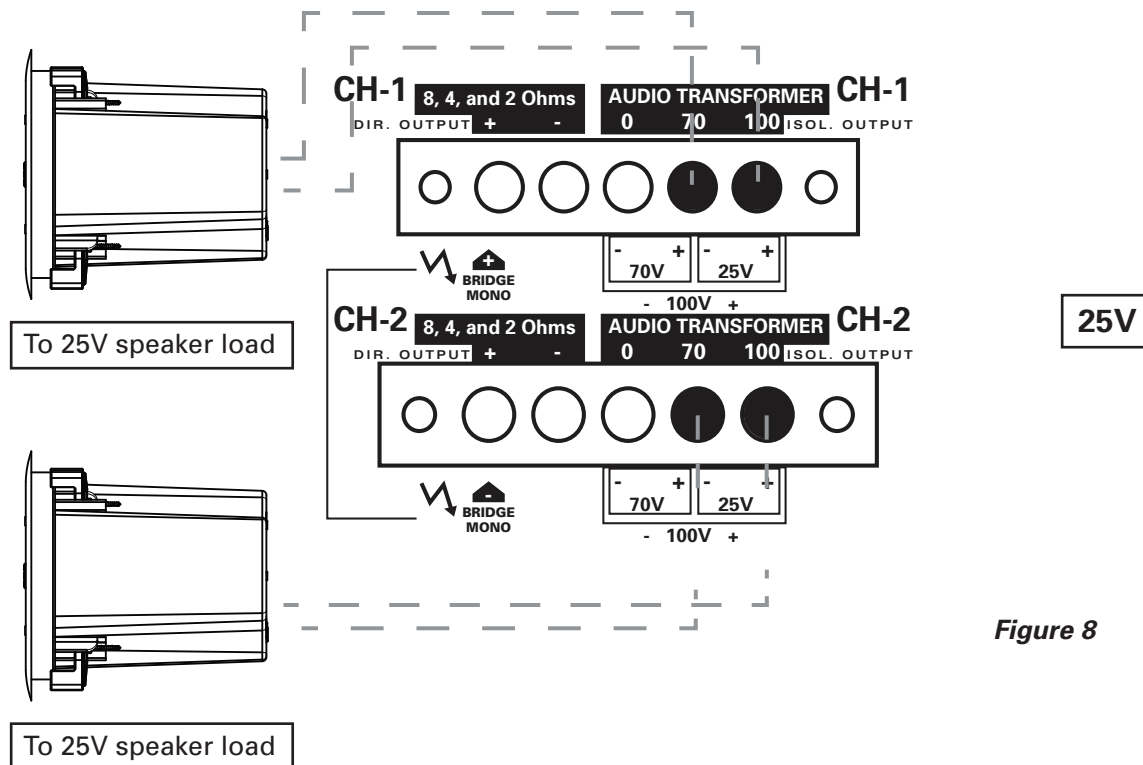

Figure 8
The amplifier will drive constant voltage speaker loads for use in commercial business music/paging systems and sound masking systems. The use of spade lugs for terminating and connecting the speaker home runs is recommended. The speaker line common connects to the "0" terminal and the positive lead connects to the desired voltage for required system requires for proper operation (Figures 8,9,10; Pages 11-12).
- **25V** - Connect the positive speaker lead to the terminal labeled "100" and the negative speaker lead to the terminal labeled "70" (Figure 8).